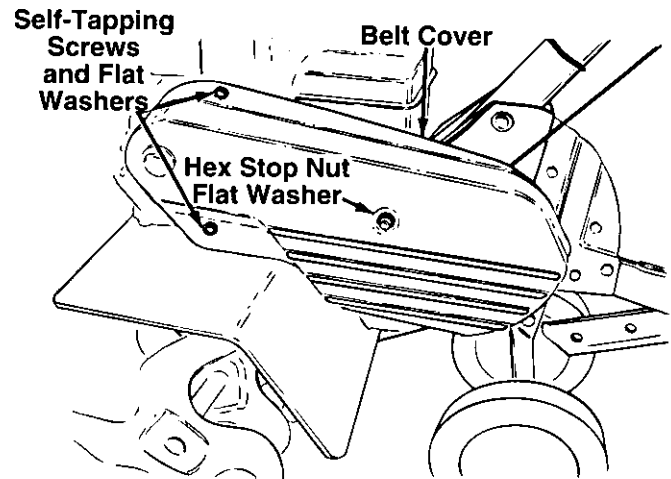

FIGURE 15.
- a. Remove two self-tapping screws and flat washers from the front of belt cover. See figure 15.